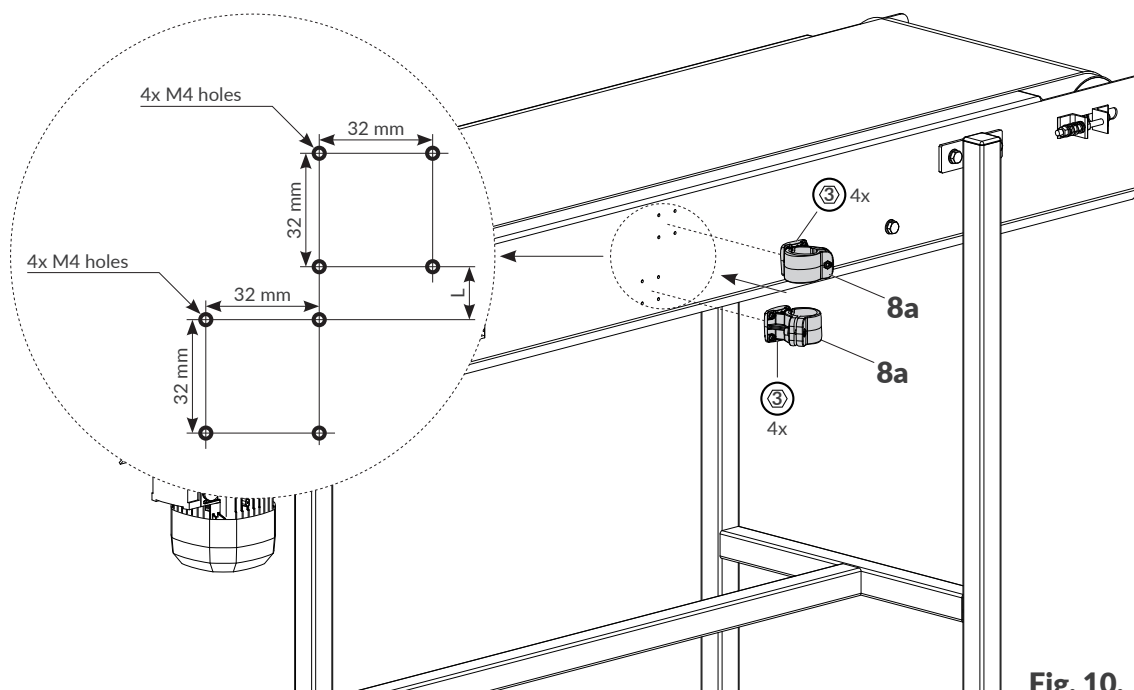

Fig. 10.
1. Prepare appropriate mounting holes in the conveyor frame (see **Fig. 10**).
Assort distance **L** (see **Fig. 10**) depending on the amount of free space available on the conveyor and on the layout of printer components on printer support beam **8**.
2. Fasten clamp holders **8a** to the belt conveyor and position them according to **Fig. 10**. Tighten the screws in holders **8a** with the #3 hex key with a ball tip.